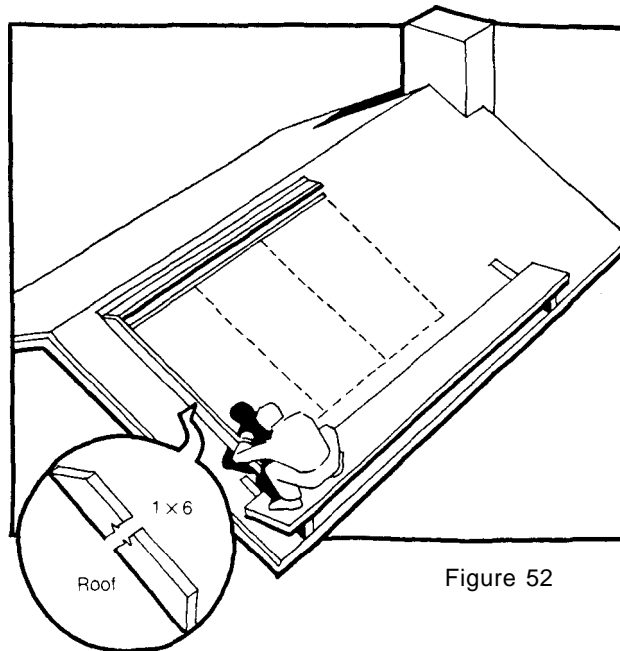

Figure 52
4. Now add the left-side trim board as shown in Figure 52. This is just a 1 x 6 angled at either end to match the bevel cut on the top and bottom pieces.